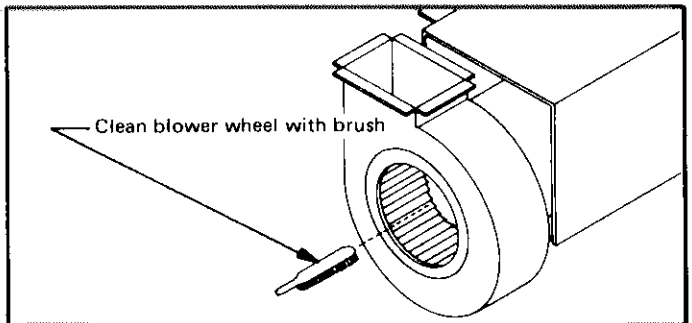

FIGURE 17
- 7 - Using a small brush clean blower blades. See Figure 17. **IMPORTANT** - If blower wheel must be removed, loosen allen screw and pull wheel out of housing. When replacing wheel make sure flat on motor shaft lines up with flat on blower wheel, and that allen screw is tightened securely.